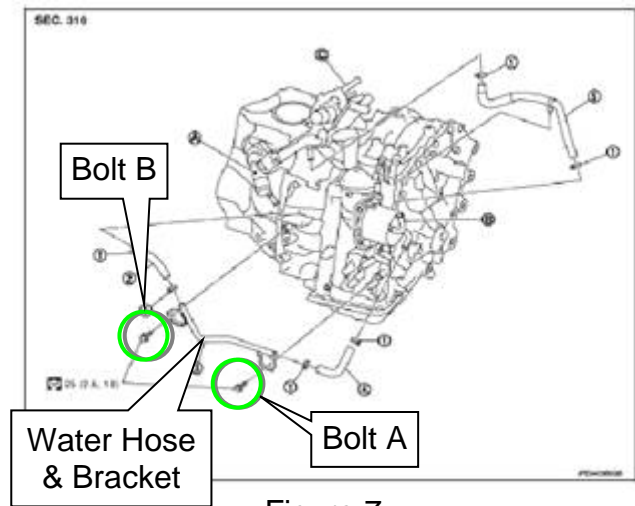

Figure 7
- These bolts secure the Water Hose and Bracket (see Figure 7).